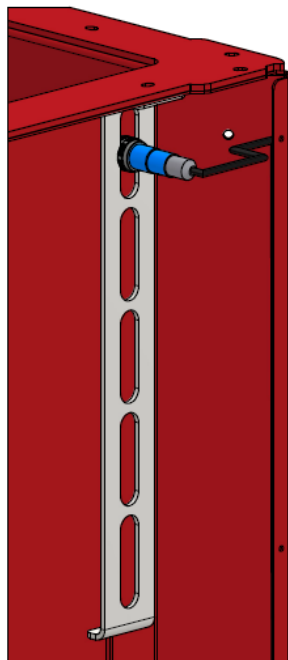

Figure 1
3. Place the cable at the edge of the safety frame as shown in Figure 1 and pass it through the hole in the back plate Figure 2 and further into the side cover for installation in the electrical box.